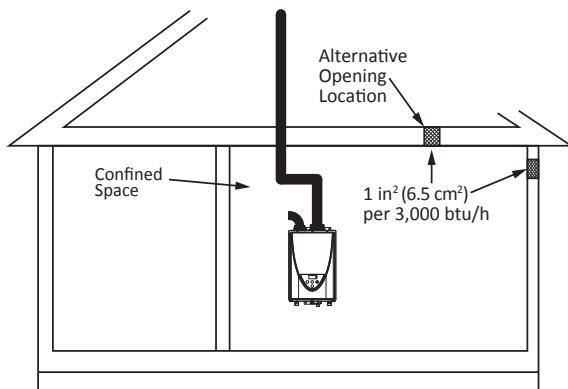

Figure 5 - Single opening
4. Single opening (not recommended; must be at least 100 in² (645 cm²) . Not appropriate for confined spaces smaller than 50 ft³ (1.42 m³) per 1,000 BTU/h or when getting air from another room.) See Figure 5.
Single Opening	1 in ² (6.5 cm ²) per 3,000 BTU/hr (see Figure 5)